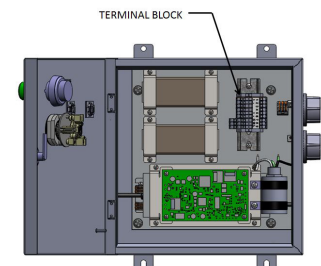

Figure 2.
2. Locate the terminal block per Figure 2 or 3.
- b. Locate the dimming control signal input terminal block per Figures 2 and 3.